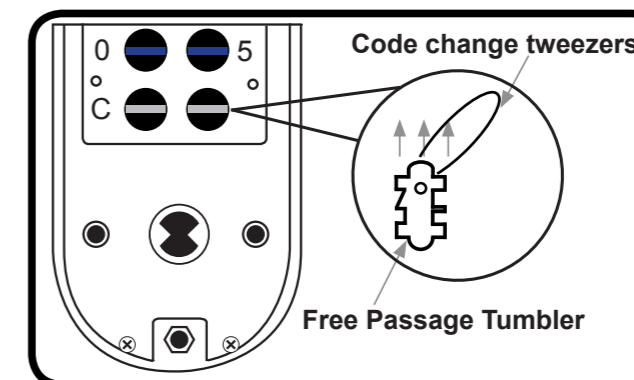

Fig.3
3. Using the code change tweezers (Part No.9) lift out the free passage tumbler as per Fig.3 below.